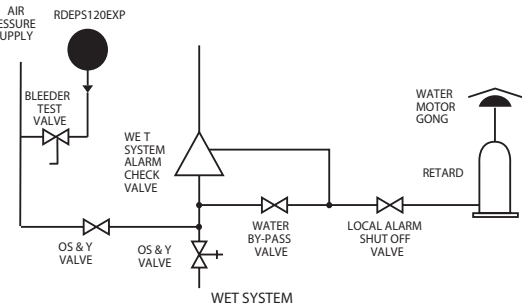

Figure 1. Dimensions
1. Back out cover tamper set screw and remove cover (Fig. 1).
2. Remove adjustment wheel cover and back off locking screw (see Figure 1) to allow main adjustment wheel to rotate freely.
3. **Option 1:** To adjust the nominal setting of the pressure window (low switch setting to high switch setting) without affecting the size of the window, adjust the main adjustment wheel, Figure 1, to the desired setting using the pressure source to verify each switch setting. Each tine on the wheel represents an approximate window shift of 1.8 PSI for the RDEPS40EXP and 6.6 PSI for the RDEPS120EXP. For each 1/2 rotation of the adjustment wheel, the window changes by approximately 11 PSI for the RDEPS40EXP and 40 PSI for the RDEPS120EXP.
Option 2: To adjust the pressure window size and the nominal setting of the pressure window, adjust the main adjustment wheel, Figure 1, until the high switch (SW1) trips at the desired pressure using the pressure test source. Decrease the pressure until the low switch (SW2) trips. Note pressure and determine how much change is desired on the low switch. Adjust the 1/4" hex screw, Figure 1, to either increase (counterclockwise) or decrease (clockwise) the window size. (The low switch will be affected.) The approximate sensitivity of the hex screw adjustment: 1/2 turn = 5 PSI. An approximate maximum window size of 30 PSI is obtainable. Retest the high switch after adjusting the low switch.